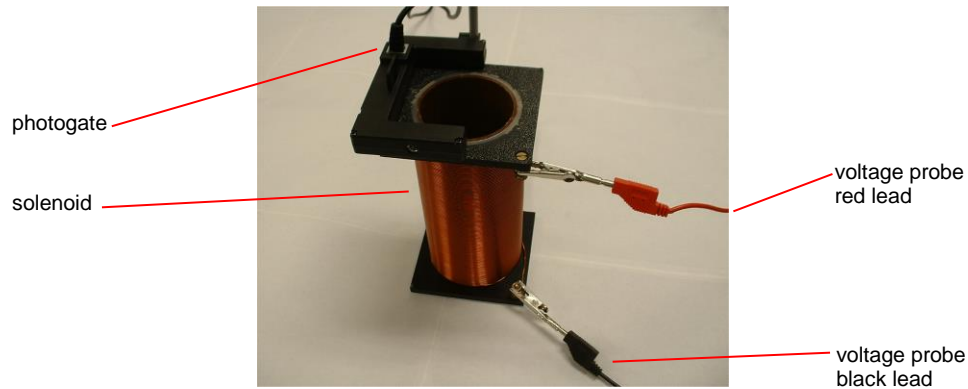

Figure 11
4. Set up the solenoid and photogate as shown in Figure 11.